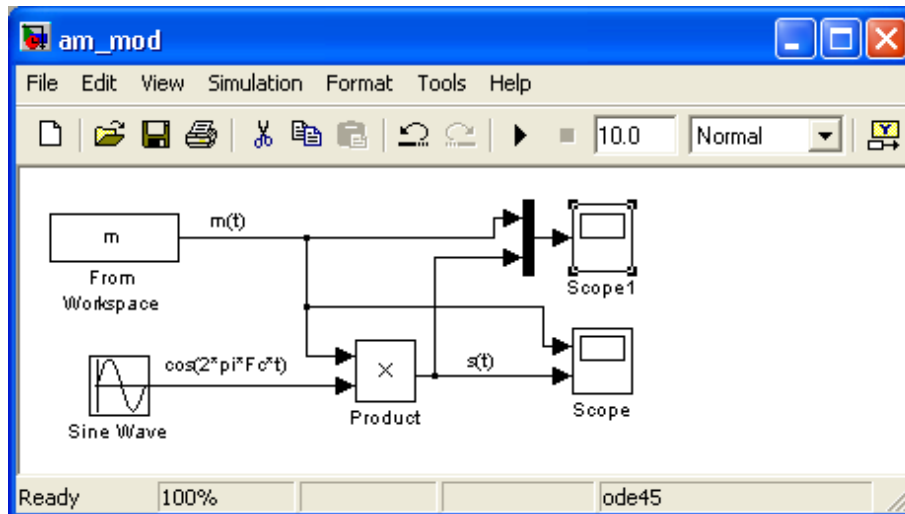

Figure 20: Design Window Showing Completed Simulation Model
- e. The next step is to add a scope with one input that displays both waveforms. This can be done using the Mux block located in Simulink → Signal Routing. Place the Mux block and the scope as shown in Figure 20. Finally, save the model as am_mod.mdl in a directory of your choice (use the File menu and select Save).